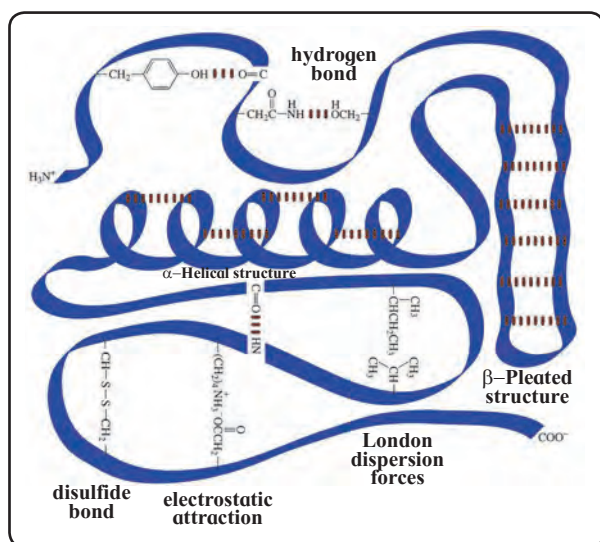

Fig. 14.21 : Tertiary structure of protein
c. Tertiary structure of proteins : The three-dimensional shape adopted by the entire polypeptide chain of a protein is called its tertiary structure. It is the result of folding of the chain in a particular manner that the structure is itself stabilized and also has attractive interaction with the aqueous environment of the cell. The **globular** and **fibrous** proteins represent two major molecular shapes resulting from the tertiary structure. The forces that stabilize a particular tertiary structure include **hydrogen bonding**, **dipole-dipole attraction** (due to polar bonds in the side chains), **electrostatic attraction** (due to the ionic groups like $-\text{COO}^-$, NH_3^+ in the side chain) and also **London dispersion forces**. Finally, **disulfide bonds** formed by oxidation of nearby $-\text{SH}$ groups (in cysteine residues) are the **covalent bonds** which stabilize the tertiary structure (Fig. 14.21).